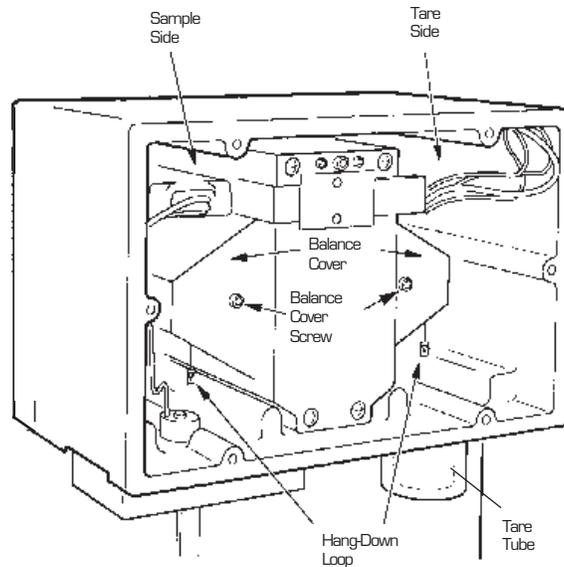

Figure 2.11
3. Loosen and remove the thumbscrew holding the balance cover on the sample (left) side of the balance mechanism (Figure 2.11), and take off the cover.